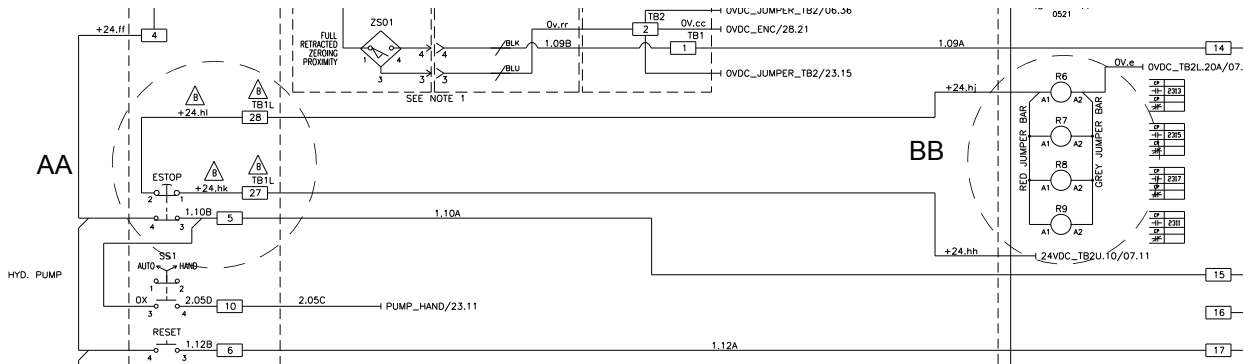

Figure 6: Inset of the PLC Slot 1, Digital Input 2 Showing Affected Areas
- Use red 18 AWG cable to connect the 24VDC terminal block in the PLC panel to terminal TB1L27 in the control console (Figures 6, 7, and 8 on pages 8 and 9 respectively, +24hh).